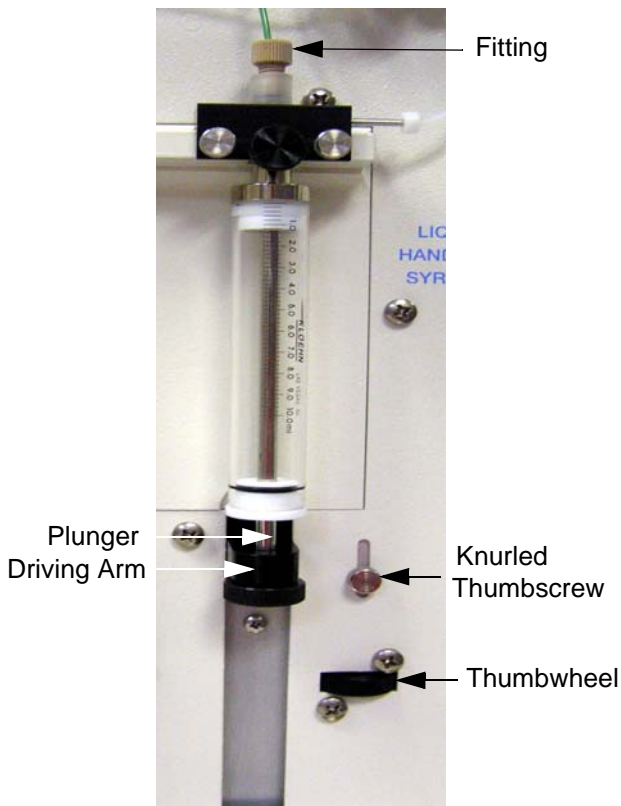

Figure 5-3. Syringe Knurled Thumbscrew
1. Loosen the knurled thumbscrew approximately two turns (see Figure 5-3).